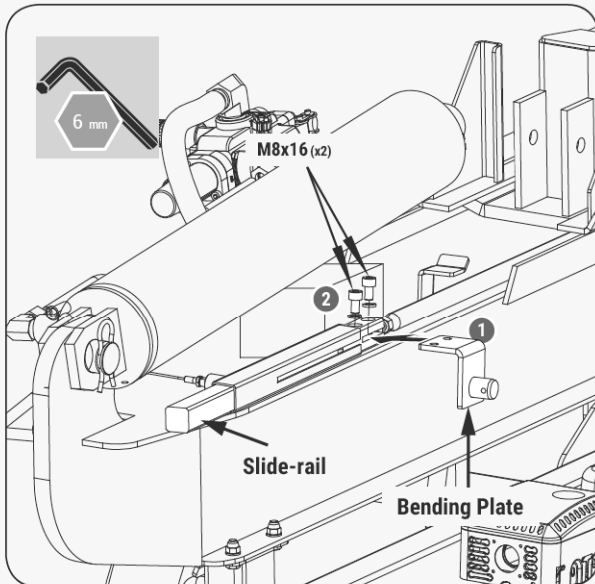

Figure 17b
2. Insert the bending plate into the U-shaped narrow slot of the slide-rail, align the two holes on the bending plate with the two holes on the slide-rail, and then tighten them with M8x16 bolts. (See **Figure 17b.**)